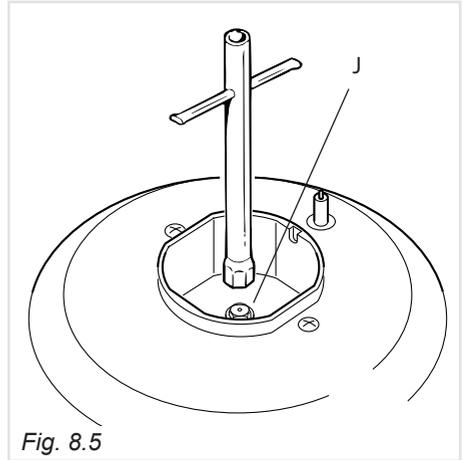

Fig. 8.5
- Using a wrench, substitute the nozzle injectors "J" (fig. 8.5) with those most suitable for the kind of gas for which it is to be used.